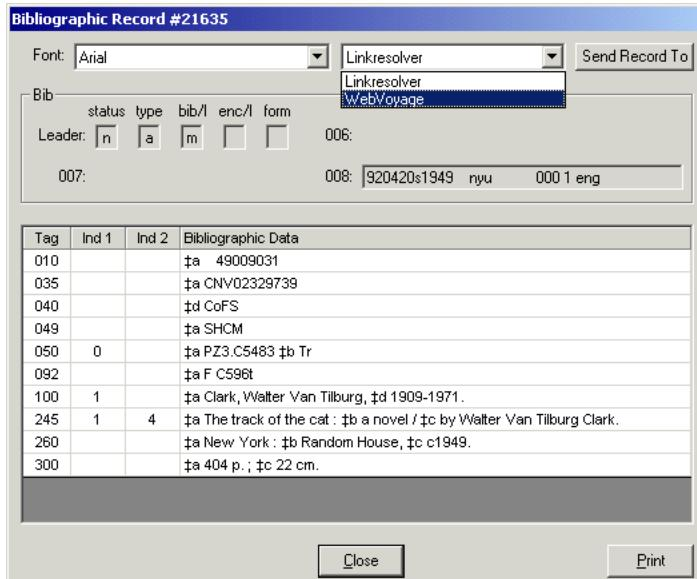

Figure 13-16. MARC view with drop-down of Web servers
- From the standard MARC view, click the arrow in the drop-down menu listing the Web servers that are configured to accept your http POST and highlight the correct Web server (see Figure 13-16).